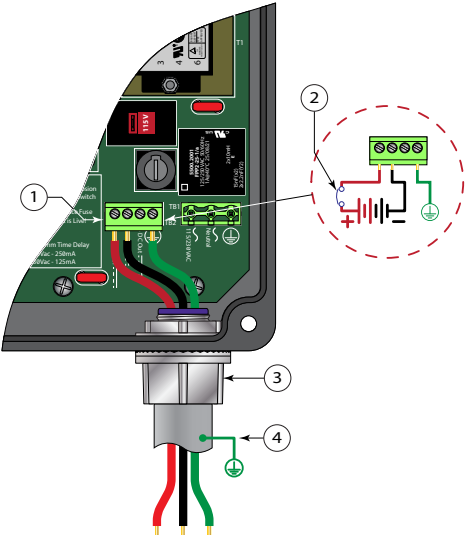

Figure 36: NEMA 4 DC power connections
- 1. Connect a 18...28V DC Class 2 power source as illustrated in the schematic in *Figure 36*. Terminal blocks in the RCT1000 accommodate wire gauges up to 14 AWG.